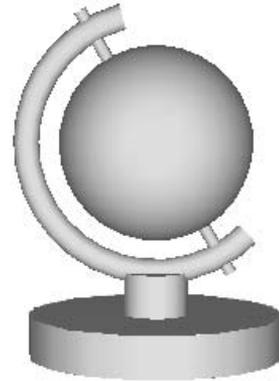

Figure 2-109 Model after hiding the isoparametric curves
4. Select the entire model and then clear the **Isoparm U** and **V** check boxes in the **Display** area of the **Control Panel**; the isoparametric curves in the model are hidden. The model after hiding the isoparametric curves is displayed, as shown in Figure 2-109.